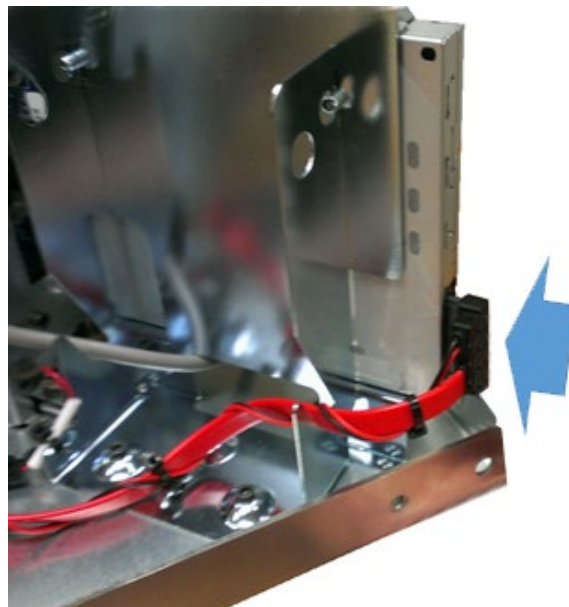

Figure 19
4. Re-insert the red SATA cable by aligning the cable and pressing evenly across the back. See Figure 19.